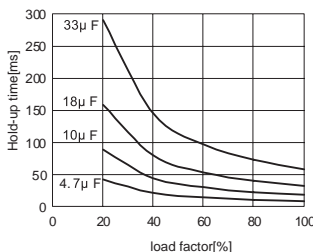
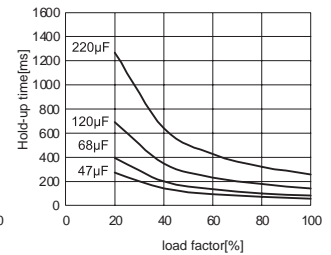

Fig3.1 TUHS3 hold-up time(AC100V)
Fig3.8 TUHS25 hold-up time(AC200V)
■ In order to smooth voltage, connect Cbc between +BC and -BC. Recommended capacitance of Cbc is shown in Table 3.2. Hold-up time and load factor is shown in figure 3.1-figure 3.8.